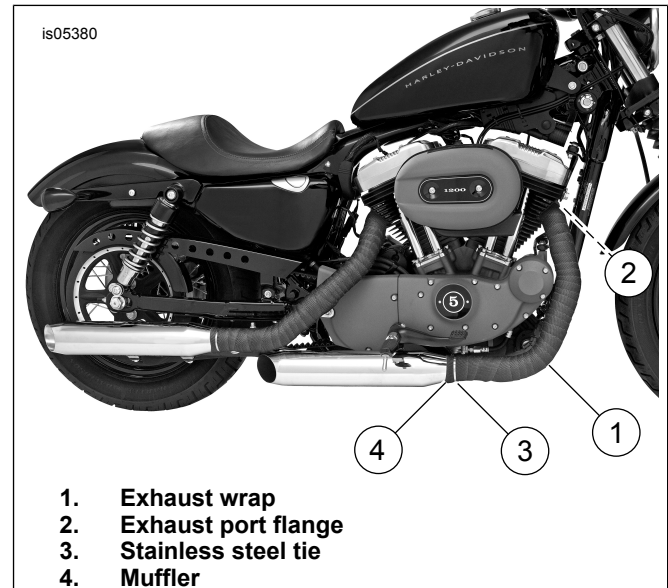

Figure 1. Exhaust Wrap (XL 1200N Shown)
1. See Figure 1. Determine the length of each tube by measuring from the exhaust port flange (2) to muffler (4) (approximately 38 inches [97 cm] per foot [30 cm] of exhaust pipe for TC and XL models and 44 inches [112 cm] per foot [30 cm] of exhaust pipe for VR models is required). Add a few additional inches for each bend before cutting.
2. CAREFULLY cut wrap material (1) for each tube and collector.
3. Without soaking, moisten wrap with water. Wrap material near the top of the exhaust port flange (2) and secure with a stainless steel tie.
4. Tightly wrap the exhaust pipe overlapping to suit with each revolution. Bind and secure the end of the wrap using a stainless steel tie (3).